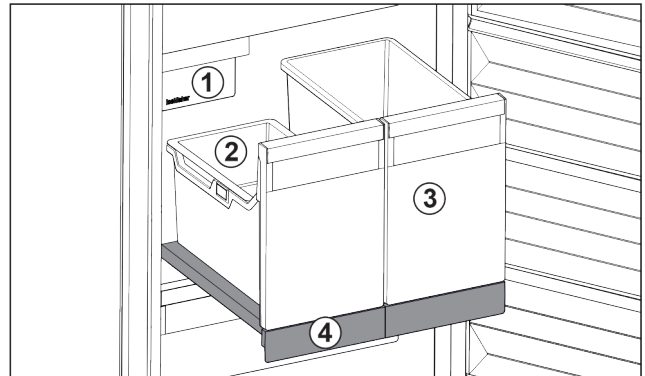

Fig. 22 Pull-out board with IceTower
- (1) IceMaker
- (2) Hang-on tray for ice cubes
- (3) Container for pizza or alcoholic beverages, for example
- (4) Pull-out board
On the pull-out board are two tall containers (IceTower). Ice cubes from the IceMaker are collected and stored in the container Fig. 22 (2). The container Fig. 22 (3) is suitable for storing tall foodstuffs or beverages such as pizzas or alcoholic drinks.